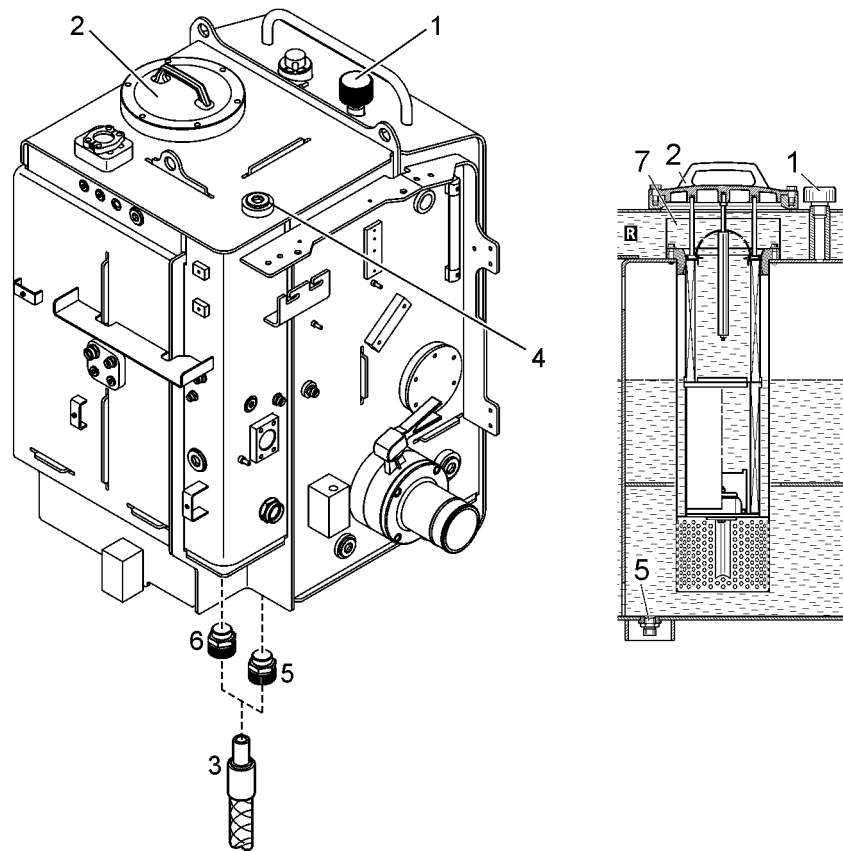

Fig. 5-42 Draining and refilling the hydraulic oil
- ▶ Keep the drain hose on the drain valves **5** and **6** (siehe Fig. 5-42) until oil without water flows.